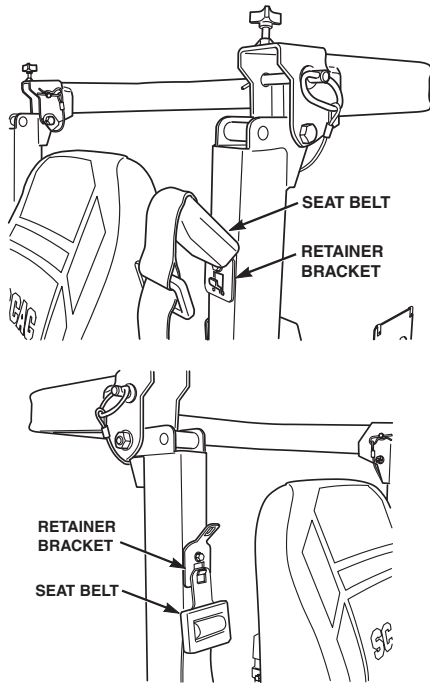

Figure 2-3 Seat Belt Retainer Brackets
4. Attach the seat belt to the retainer brackets as shown in Figure 2-3, page 8. The seat belt should only be attached to the retainer brackets when the roll bar is in the down position.